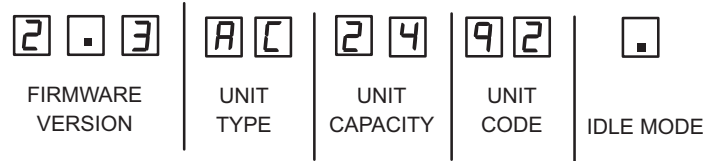

FIGURE 24. Outdoor Control 7-Segment Unit Status Displays
If the single-character display shows three (3) horizontal lines, the unit selection code needs to be programmed. Press and hold the button until the *P U* menu option is displayed, release button. The single-character display displays the selected mode per example in FIGURE 24 on page 46. When the desired unit selection code appears, press and hold the button until it stops flashing, then release.